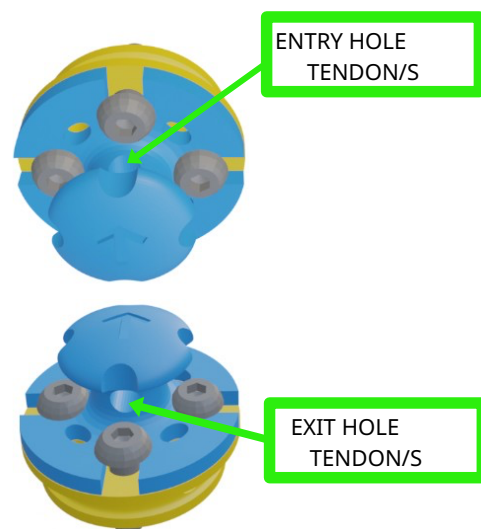

Figure 5.55: Insertion of extension end
6. Insert the end (or ends) into the top hole of the extension winder and let it come out of the hole at the bottom of the same winder (figure 5.55), ensure that the amount of tendon that came out of the hole is long enough to prevent it from slipping out again.